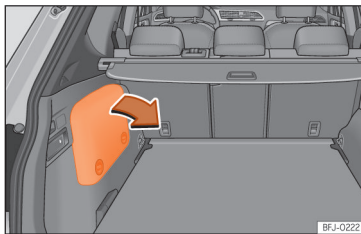

Fig. 243 Hybrid vehicles (PHEV): location of the battery in the luggage compartment
- The 12V battery is located inside the left side compartment >>> Fig. 243.